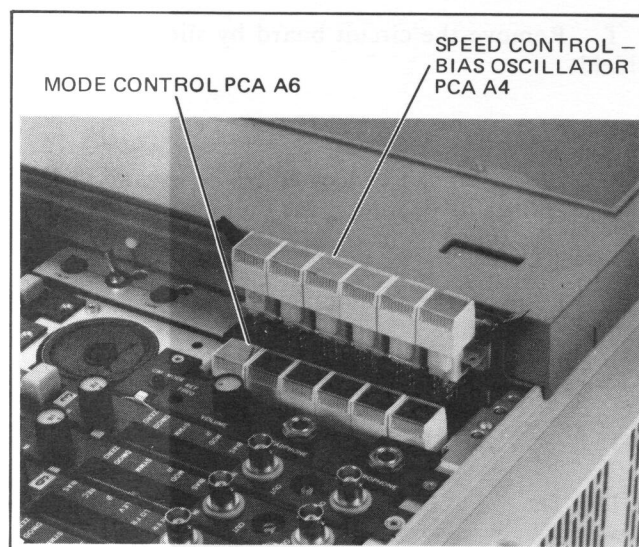

Figure 5-59. Speed Control and Mode Control PCA Removal
- c. Remove the PCA. Black plastic extractor tabs are provided (see Figure 5-59).